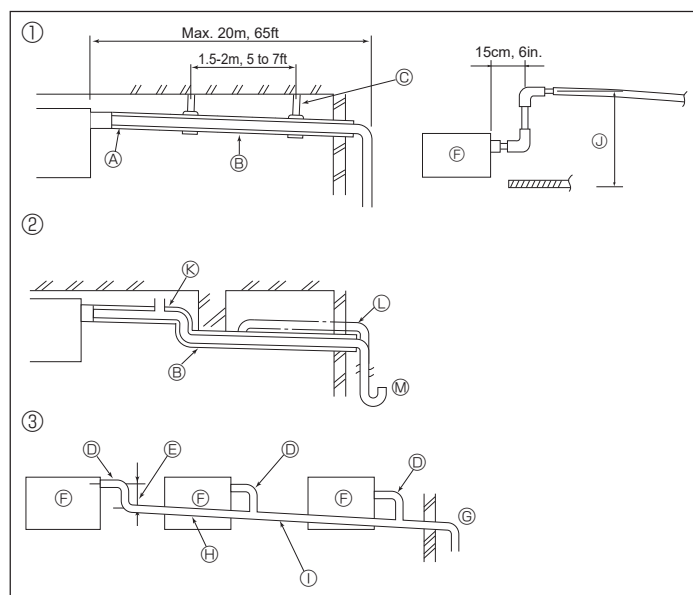

Fig. 4-1
4.1. Drainage piping work (Fig. 4-1)
- ① Correct piping
- Do not place an air bleeder. It may cause overflowing of drainage, ③
- Do not place a raised pipe on the piping, ①
- Do not place odor traps on the piping, ③
- ② Wrong piping
- ③ Grouped piping